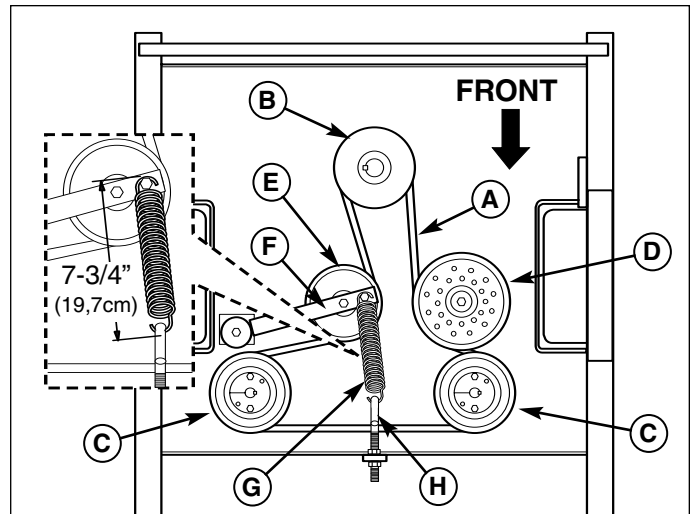

Figure 32. Hydraulic Pump Drive Belt Replacement
3. Loosen the nut towards the front of the machine on the spring anchor hook (H, Figure 32) to release the majority of the belt tension. Use caution and remove the nut to completely release the tension.
4. Remove the old belt and replace it with the new one. Make sure the V-side of the belt runs in the grooves of the crankshaft pulley and pump pulleys (B & C, Figure 32).
5. Reinstall the anchor hook (H, Figure 32) into the anchor tab and loosely fasten the nut. Adjust the spring until a measurement of 7-3/4" (19,7cm) is achieved from the outside if the spring hooks. Tighten nut.